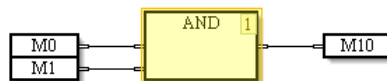

Figure 12-13 Selecting an object
- The users have to select a logic gate, as shown in figure 12-13.